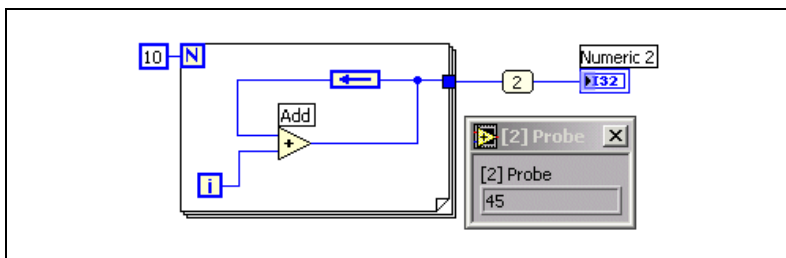

Figure 8-5. Passing the Last Value Out of the For Loop
The For Loop in Figure 8-5 also iterates 10 times. However, the Feedback Node passes the value from the previous iteration only to the input of the Add function each time the loop iterates. On the last iteration of the loop, the Feedback Node passes the value from the previous iteration (36) to the input of the Add function. The Add function adds the value the iteration terminal generates (9) to the value the Feedback Node passes (36) and sends the result to the tunnel. When the VI finishes running, the value in the numeric indicator is **45**.